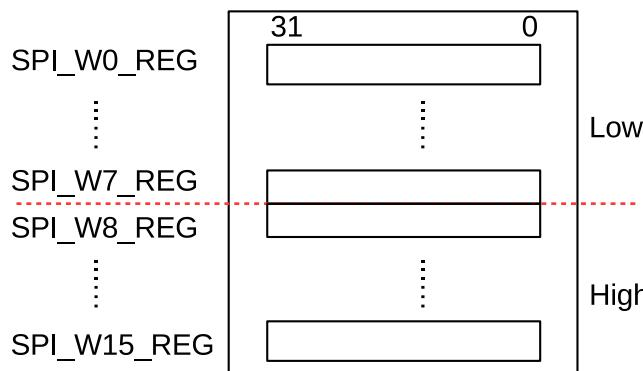

Figure 30.5-1. Data Buffer Used in CPU-Controlled Transfer
GP-SPI provides 16 x 32-bit data buffers, i.e., `SPI_W0_REG ~ SPI_W15_REG`, see Figure 30.5-1. CPU-controlled transfer indicates the transfer, in which the data to send is from GP-SPI data buffer and the received data is stored to GP-SPI data buffer. In such transfer, every single transaction needs to be triggered by the CPU, after its related registers are configured. For such reason, the CPU-controlled transfer is always single transfers (consisting of only one transaction). CPU-controlled transfer supports full-duplex communication and half-duplex communication.
- **SPI Buffer:** SPI_W0_REG ~ SPI_W15_REG, see Figure 30.5-1. The data transferred in CPU-controlled mode is prepared in this buffer.